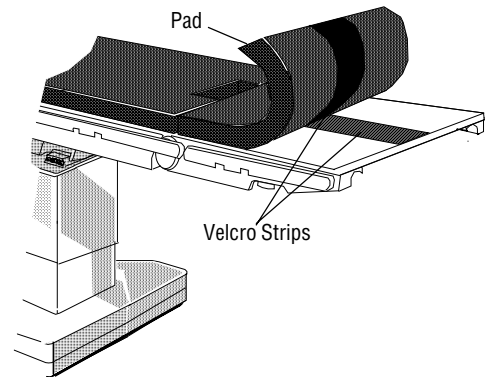

Figure 3-12. Tabletop Pads
which fasten to companion strips on the tabletop (see Figure 3-12). Removable accessories are positioned and secured by clamps or sockets which are attached to (and slide along) the side rails.
3.12.1 Tabletop Pads (Figure 3.12)